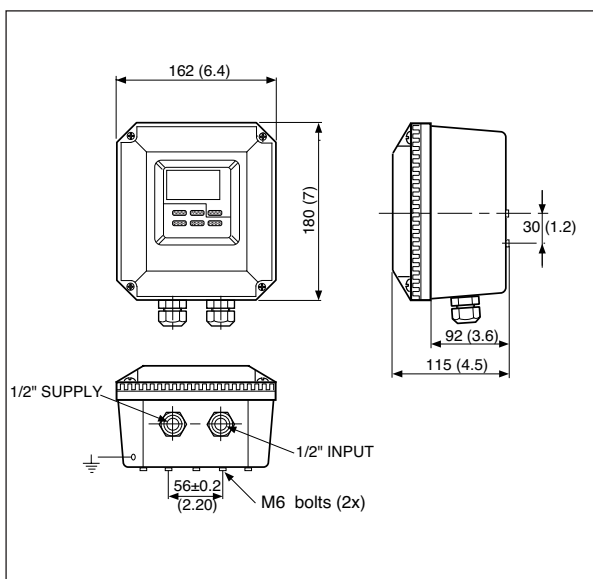

Fig. 3-1. Housing dimensions and layout of glands
- Access is possible to the cable glands (see figure 3-1)